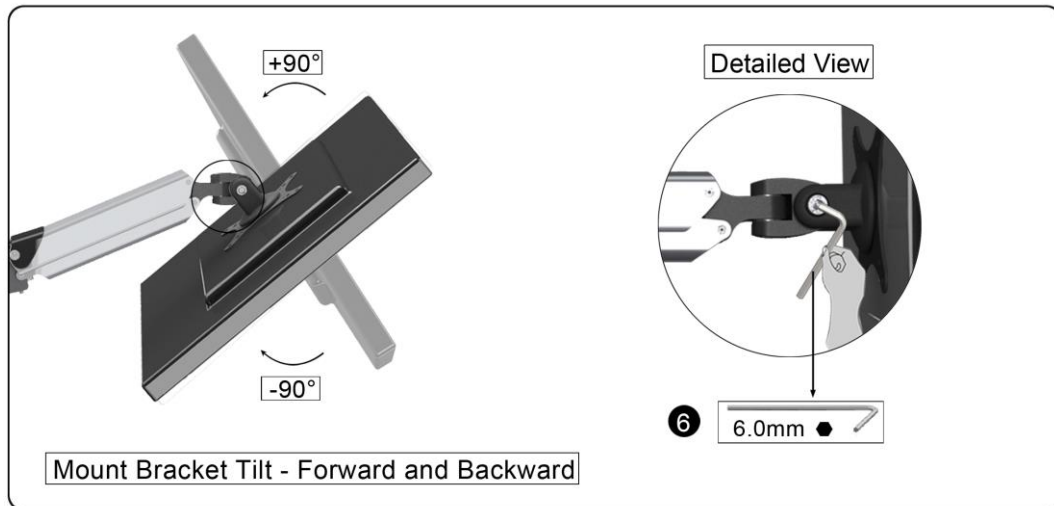

Figure 5-2
- To adjust the resistance on the VESA bracket, use the provided 6mm hex Allen wrench (6) to loosen or tighten the hex screw until you have reached your desired position (See Figure 5-2).